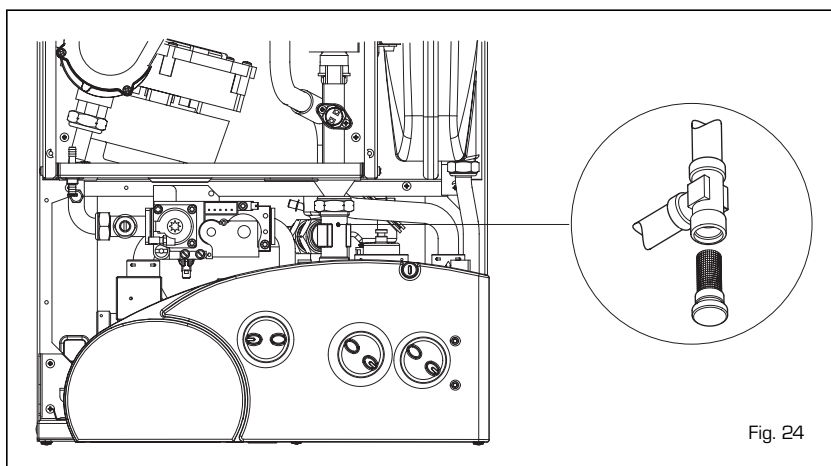

Fig. 24
4.6.1 Cleaning the "Aqua Guard" filter (fig. 24)